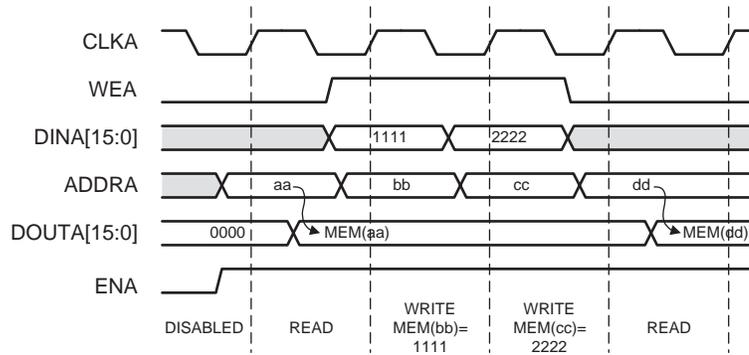

Figure 11: No Change Mode Example
- No Change Mode:** In NO_CHANGE mode, the output latches remain unchanged during a write operation. As shown in Figure 11, the data output is still the previous read data and is unaffected by a write operation on the same port.